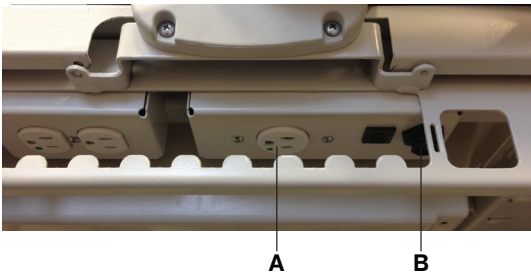

Figure 39: InTouch auxiliary mattress outlet and integration cable
Note: Make sure that you plug the support surface power cord into the **InTouch** auxiliary mattress outlet (A) and the integration cable to the mattress connector (B) (Figure 39).